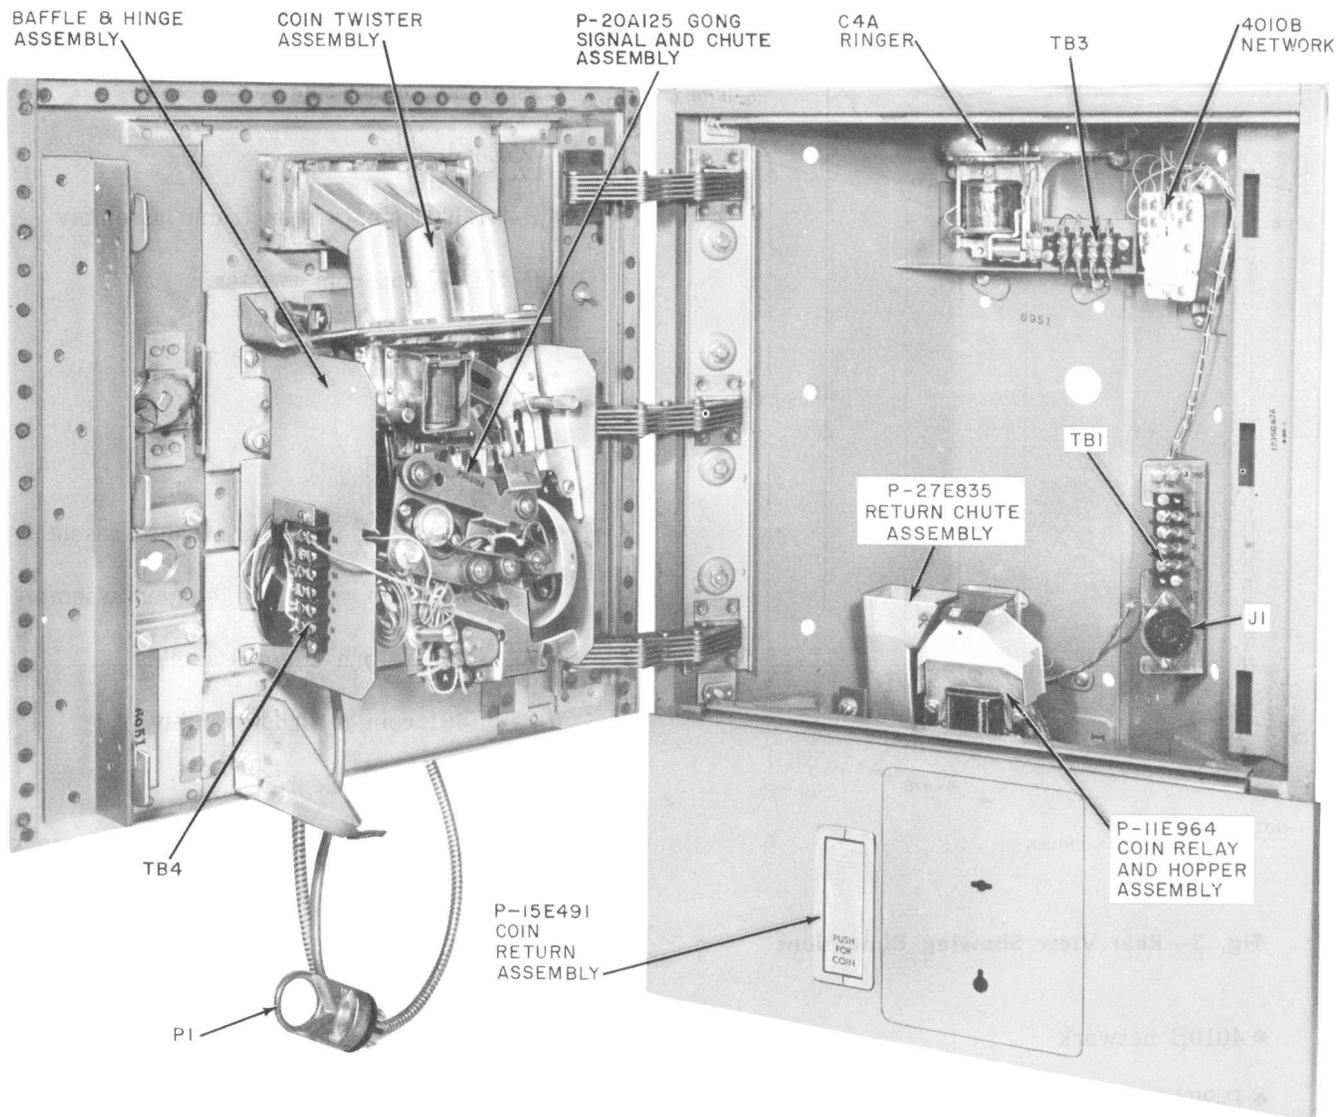

Fig. 4—235- or 1235-Type Coin Telephone—Interior
2.01 Replaceable Components for 235G (Fig. 4)
2.02 Replaceable Components for 1235G (Fig. 4)
Note: Do not open door fully until plug (P1) is disconnected (Fig. 4).